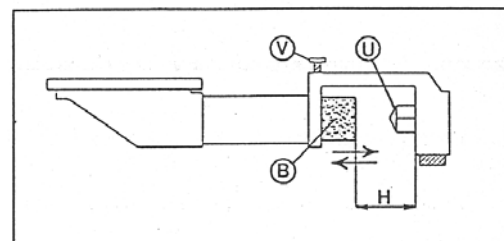

Fig. 5
- For the triple crown burner (Fig. 5), loosen the "V" screw securing the adjustment bush "B" and set the bush to